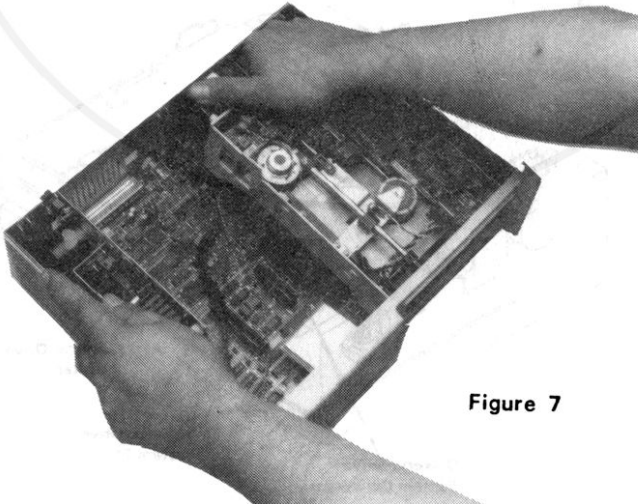

Figure 7
- 9 Remove the disk drive by firmly grasping the drive as shown in the photo - then pull straight up. At times, a fair amount of force will be necessary. See figure 7.